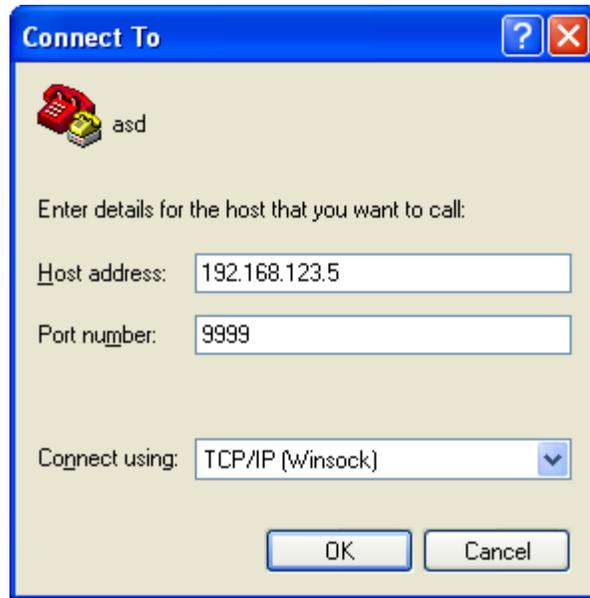

Figure 4-D: Telnet® Settings in Hyper Terminal
Once the *Telnet*® connection is established you will be prompted to “Press Enter for Setup Mode.” Press enter and a menu of device server configuration options will appear (see Figure 4-E). Select menu item 3, “SNMP configuration.” You will be prompted to enter SNMP community read and write strings. After setting your desired community strings you will be prompted to “Enter IP addresses for SNMP traps:” You must enter at least one and up to four IP addresses of SNMP managers that will access the unit. This is required even though SNMP traps are not implemented. The unit will not process SNMP SET and GET requests from an SNMP manager unless the IP address associated with that manager is entered in the device server.